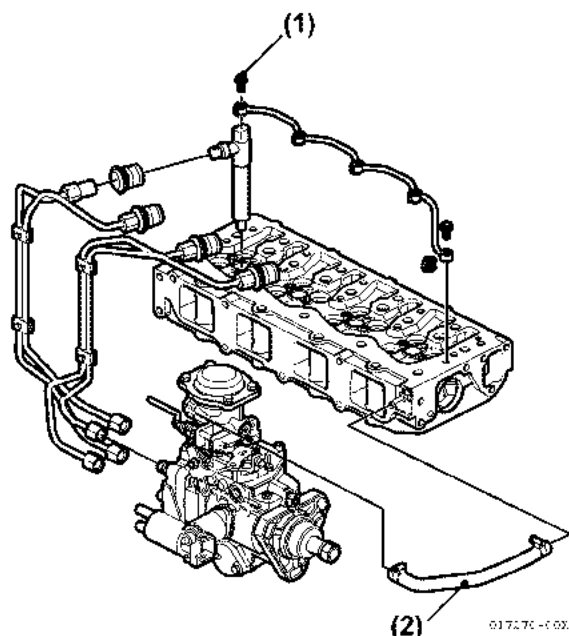

Figure 6-80
3. Loosen the clamps (**Figure 6-79, (1)**), (**Figure 6-80, (1)**) and remove fitting from fuel injection nozzle top. Repeat with all fuel injection nozzles. **NOTICE: NEVER disassemble fuel return line assembly. No individual parts are available and it must be replaced as a complete assembly.**
5. Inspect seal (Figure 6-80, (1)) on each fitting. If any packing is damaged, replace it as new packing.